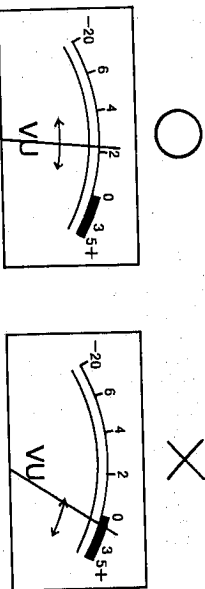

Fig. 15
3. Depress the Pause key, then depress the Play and Record keys together. Adjust the recording level by turning the right and left RECORDING LEVEL controls so that the pointer of the level meter will not swing over O-VU even at maximum level. If the deflection exceeds O-VU, the recording will be distorted due to excessive recording signal. (Fig. 15)